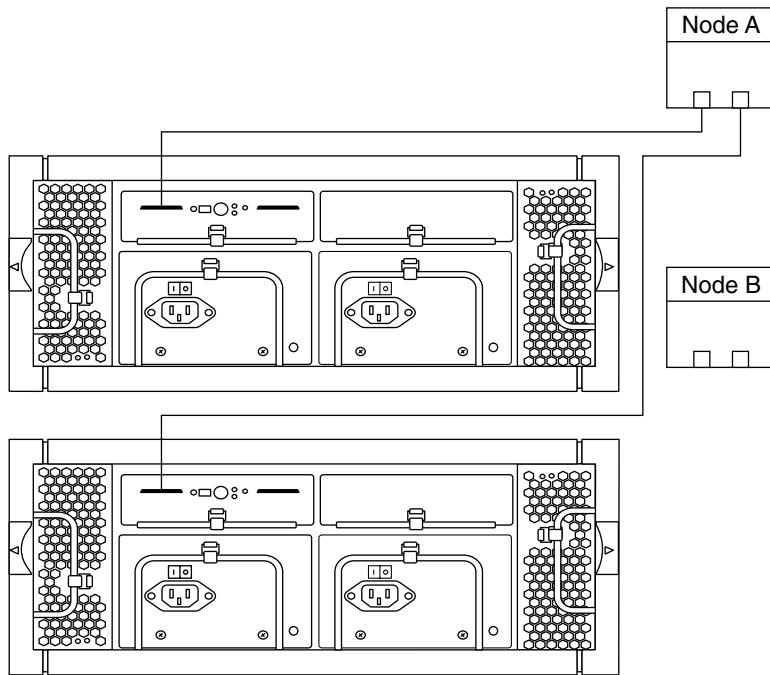
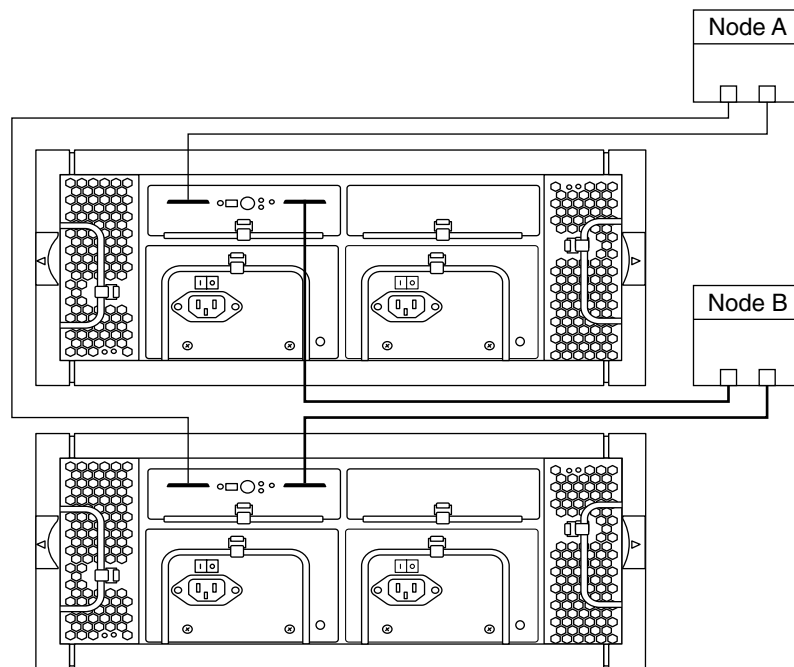

FIGURE 3-27 SPARC: Adding a Sun StorEdge D2 Single-Bus Configuration: Part 1
FIGURE 3-29 SPARC: Adding a Sun StorEdge D2 Single-Bus Configuration: Part 2
- For single-bus configurations, see Figure 3-27 and Figure 3-29.